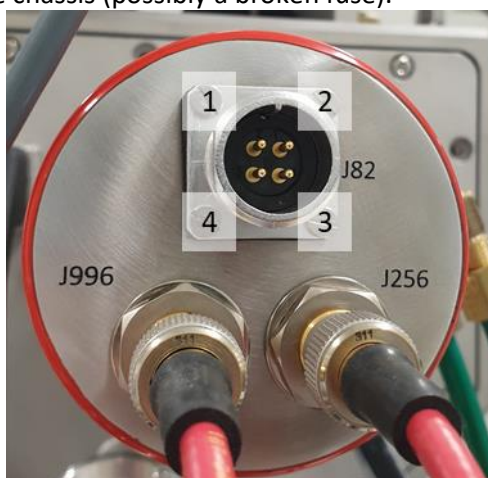

Figure 454: source filament feedthrough.
- the good isolation between each filament pin of the feedthrough and the source body. See Figure 454: source filament feedthrough.: pins 1 and 2 are connected to the ionizer filament. Pins 3 and 4 are connected to the reservoir filament.